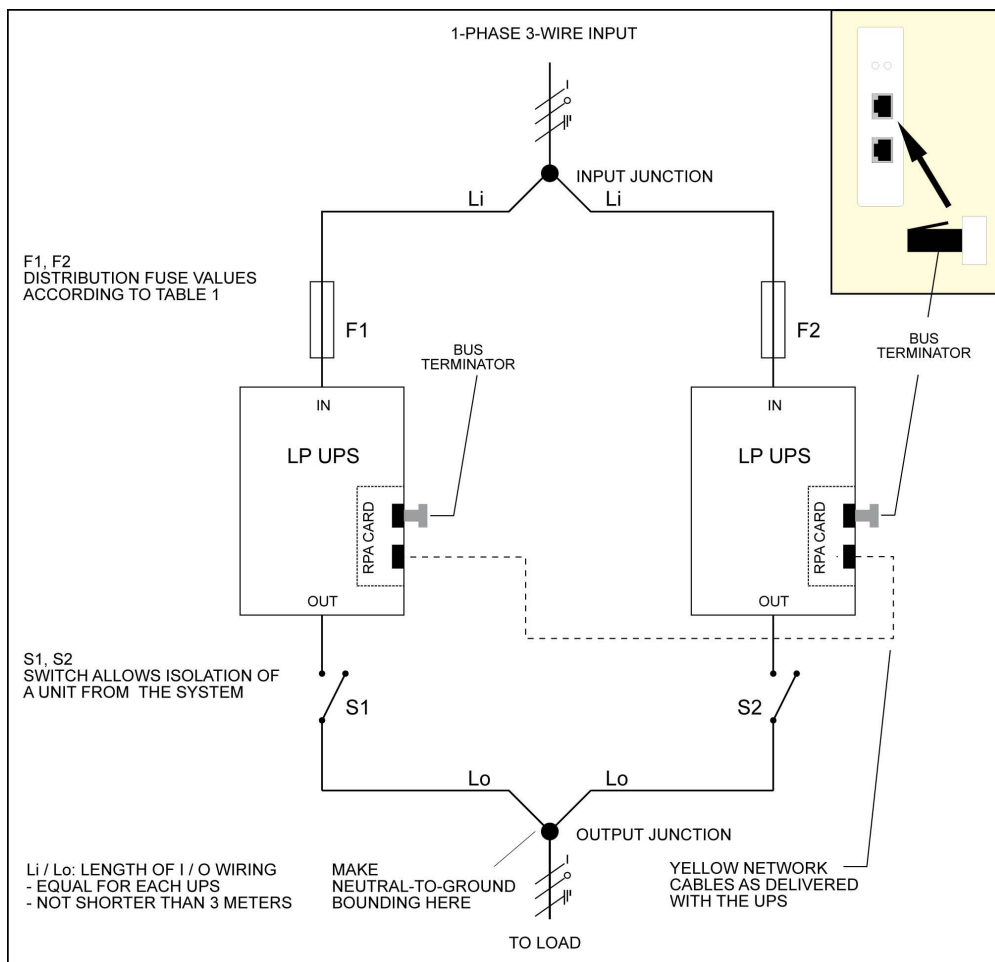

Figure 17. Installation of parallel operating UPSs
2. All outputs must be connected together, supplying the load. It is advised to install switches (S 1-2, fig. 17) in the output wiring, in order to be able to isolate a unit from the remaining system for service and maintenance purposes. It is advised to make a Neutral-to-Ground bounding in the output junction.
4. The length of all input cables from the input junction (Li, fig. 17) to the UPS inputs should be made as equal as possible (20% tolerance is allowed). The same applies to the cables from the outputs to the output junction (Lo, fig. 17). The minimum length of the input as well as the output cables is 3 meters / 10 feet.
7. Interconnect the RPA-cards of the units, using the network cable that factory supplied. See figure 17 (dotted line). Only install the cables that were delivered with the UPSs! On the first and the last UPS in the system only one RPA-socket is used to interconnect the UPSs. A bus terminator must be placed in the other (free) RPA-socket. The required bus terminators have been delivered with the unit.
4. Remove the input fuse from the input of UPS # (F1-4 in figure 17).
5. Separate the output of UPS # from the output junction (S1-4 in figure 17).
4. Remove the installation fuse from the input of UPS # (F1-4 in figure 17).